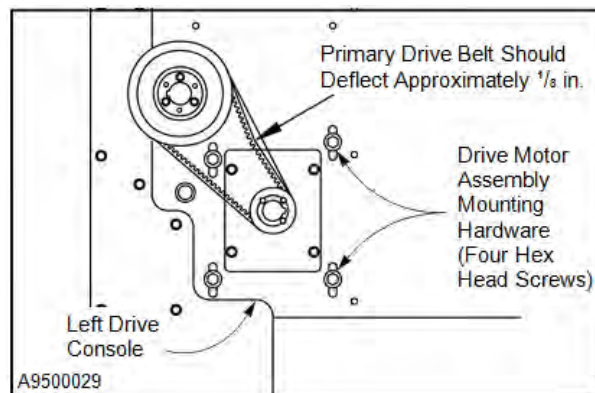

Figure 45
3. Loosen the four hex head screws securing the drive motor assembly to the left drive console. (See Figure 45.)
11. Re-inspect the drive belt to make sure it is properly tensioned. (See Figure 45.)